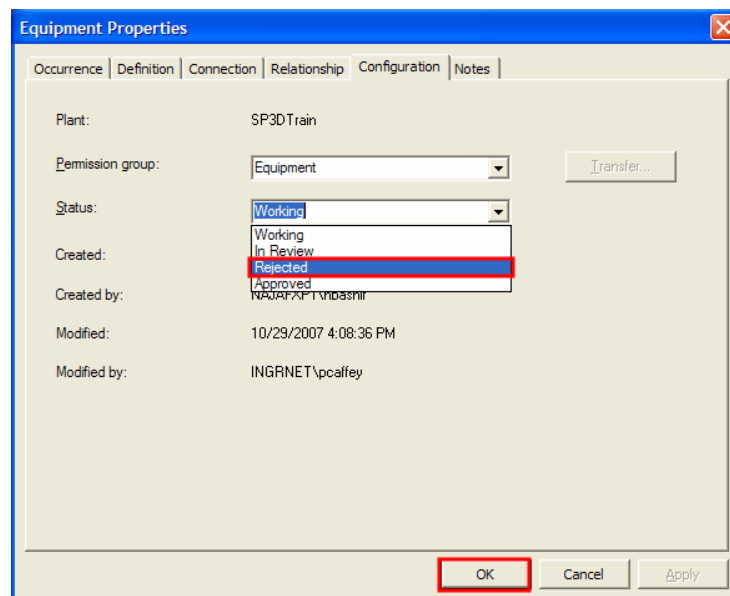

Figure 20: Equipment Properties Dialog Box
4. On the **Equipment Properties** dialog box, navigate to the **Configuration** tab and change the **Status** of the equipment from **Working** to **Rejected** and click **OK** in the dialog box to apply the changes, as shown in Figure 20.